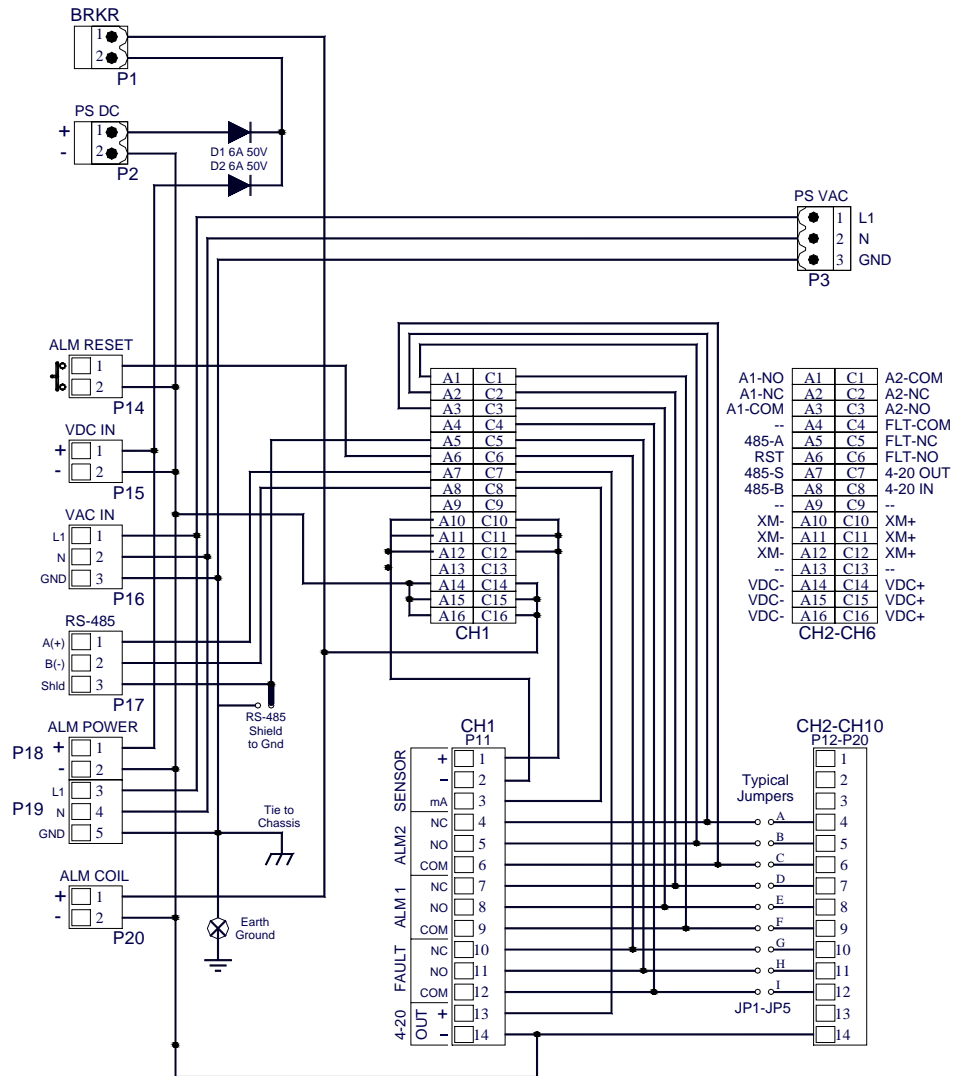

Figure 4 Motherboard Wiring Diagram
A remote mounted normally open momentary switch may be used to reset the alarms of all Model 10 controllers. “ALM RESET” (P14-1 and P14-2) provides a set of terminals to connect the switch across every Model 10 Controller (Figure 4). The reset function is effective when the Model 10’s respective alarms have been programmed in the latching position and alarm conditions have passed. Each Model 10 controller also has its own discrete alarm reset switch, discussed further in the Model 10 Controller Manual.
2. Refer to installation and wiring detail of remote mount sensor assemblies as detailed in the Sensor Instruction Manual. Terminate field wiring from sensors on the 1010-N4X motherboard. Terminals are labeled “Sensor” (mA, + and –, Figure 4).
3. If applicable, terminate the discrete 4-20mA outputs to external device(s). Terminals are labeled “4-20 Out” (+ and –, Figure 4).
4. If applicable, terminate the RS-485 serial output to external device(s). Terminals are labeled “RS-485” (A+, B–, and Shield, Figure 4). If applicable, terminate RS-485 Shield to Earth Ground via the jumper tab located to the left of the RS-485 terminals. Place the jumper on the the bottom 2 contacts to tie RS-485 shield to Earth Ground or place the jumper tab on the top two terminals for storage.
- If applicable, connect a 24VDC source or standby battery to the terminal strip labeled “VDC IN” (P5+ and -) on the Motherboard (Figure 4).
- Connect 110/220VAC input wiring to the terminals labeled “VAC IN”; P16-1 (L), P16-2 (N), and P16-GND Ground (Figure 4). The Power Supply will accept input voltages from 100 to 240VAC, 50/60Hz.